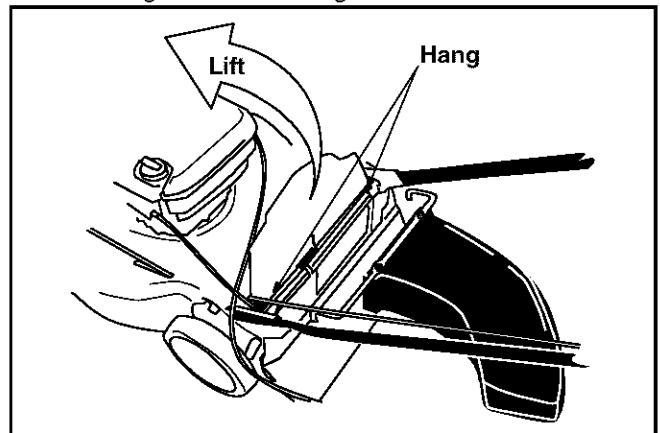

Figure 13
- Raise the rear discharge door and remove the grass bag or mulch plug if installed. Hang the side discharge chute. See Figure 13.